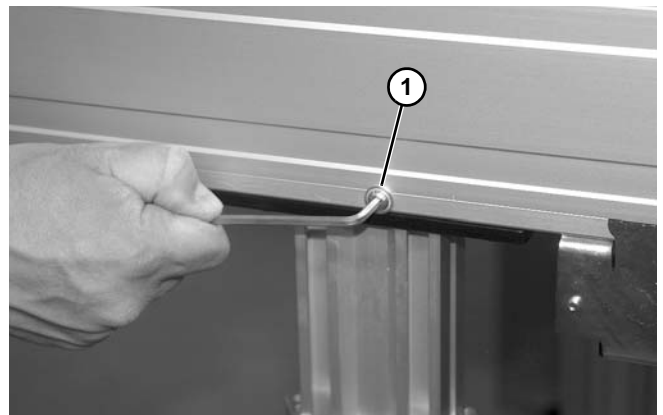

Figure 32
4. Secure cover with screws (**Figure 32, item 1**).